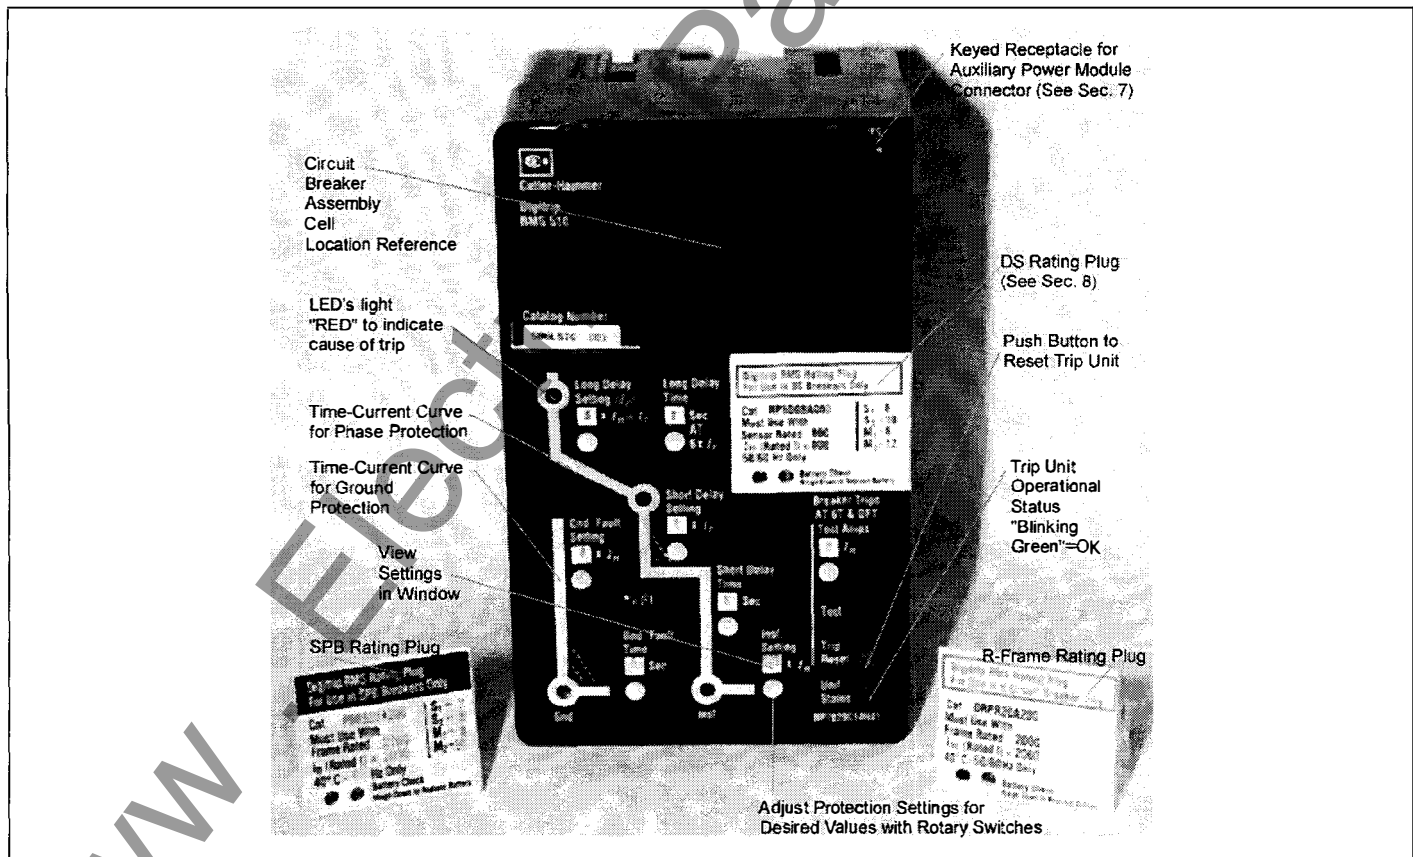
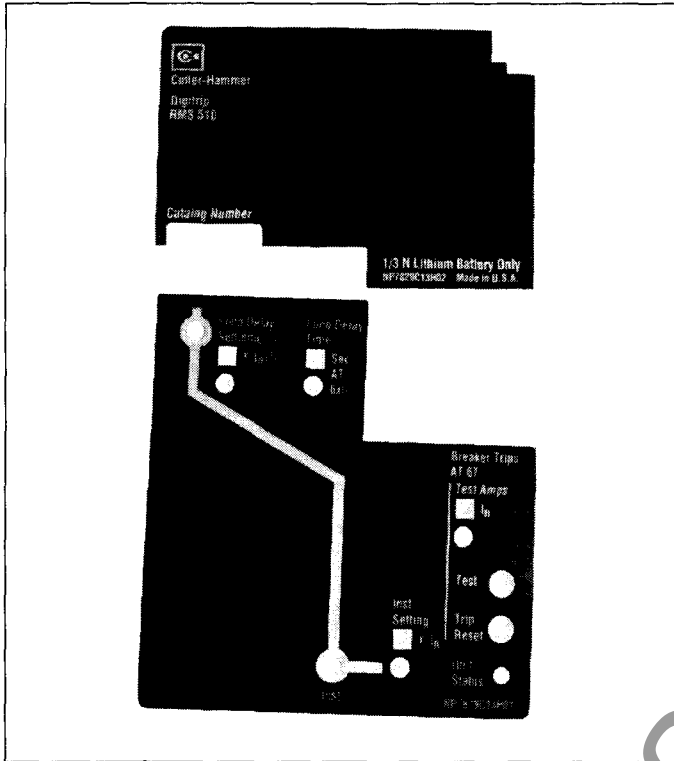
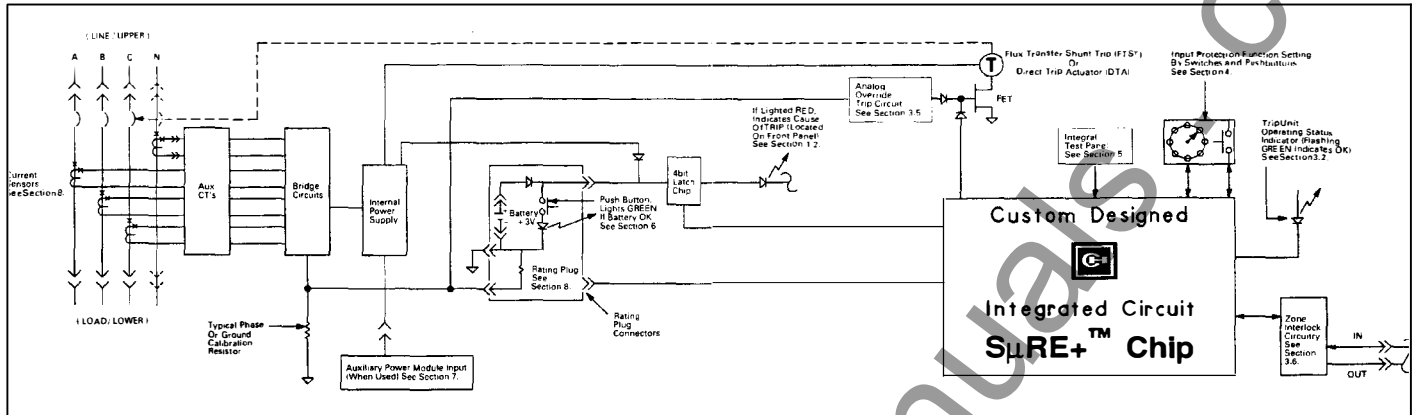
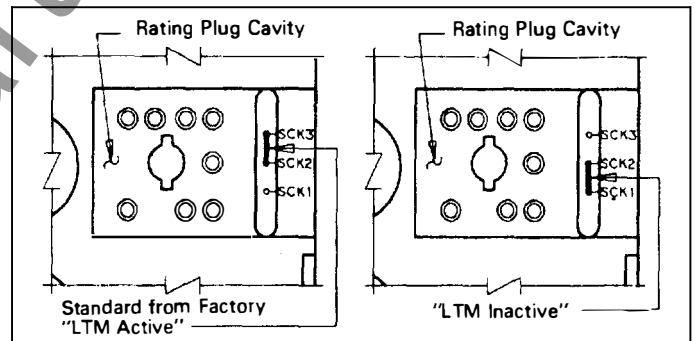

Fig. 1 Digitrip RMS 510 Trip Unit Model LSIG with Rating Plug
Fig. 2.1 Long Time/Instantaneous Protection (LI)
Fig. 3 Digitrip RMS 510 Block Diagram with Breaker Interface
Fig. 4.2.1 Long Time Memory "LTM" Jumper
The Digitrip RMS 510, illustrated in Fig. 1, is a custom application specific integrated circuit based trip unit suitable for use in types DS and DSL low voltage AC power circuit breakers and type SPB Systems Pow-R circuit breakers and Series C[®] R-Frame molded case circuit breakers.
The Digitrip RMS 510 Trip Unit is available in six different types. Each trip unit may be equipped with a maximum of five phase and two ground (time-current) adjustments to meet specific application requirements. The types of protection available for each model include the following, which are illustrated in Figures 2.1 through 2.6:
The Digitrip RMS 510 Trip unit provides three basic functions: Protection, Information and Testing. A typical trip unit and rating plug are illustrated in Fig. 1. Individual product instruction leaflets referenced in Section 9.0 illustrate typical Digitrip RMS Trip Units installed in specific breakers.
The trip unit employs the Cutler-Hammer Inc. custom designed integrated circuit μ RE + chip, which includes a microcomputer to perform its numeric and logic functions. The principle of operation is described by the block diagram shown in Fig. 3.
The LEDs, shown in Figs. 1 and 2.1-2.6, on the face of the trip unit, light "RED" to indicate the reason for any automatic trip operation. As indicated in Figs. 2.1-2.6, each LED is strategically located in the related segment of the time-current curve depicted on the face of the trip unit. The reason for trip is identified by the segment of the time-current curve where the LED is lighted "RED". Following an automatic trip operation, the back-up battery, continues to supply power to the LEDs as indicated in Figs. 3 and 6. To check the status of the battery, see Section 6.
Push the "Trip Reset" button shown in Fig. 1, to turn "Off" the LEDs following a trip operation.
A green colored LED, as shown in Fig. 1, indicates the operational status of the trip unit. Once the load current through the circuit breaker exceeds approximately 10% of the frame/current sensor rating, the green LED will flash "On" and "Off" once each second, to indicate the trip unit is energized and operating properly.
Zone Selective Interlocking (or Zone Interlocking) is available (see Fig. 3) for Digitrip RMS Trip Units having Short Delay and/or Ground Fault protection. Zone Selective Interlocking provides the fastest possible tripping for faults within the breaker's zone of protection, and yet also provides positive coordination among all breakers in the system (mains, ties, feeders and downstream breakers) to limit the outage to the affected part of the system only. When Zone Interlocking is enabled, a fault within the breaker's zone of protection will cause the RMS DIGITRIP trip unit to:
Prior to placing circuit breaker in operation, each trip unit protection setting must be set to the values specified by the engineer responsible for the installation. The number of settings that must be made is determined by the protector model supplied as illustrated in Figs. 2.1 through 2.6. Each setting is made with a rotary switch, using a small screwdriver. The selected setting for each adjustment appears in its respective rectangular viewing window as illustrated in Fig. 1.
In certain applications it may be desirable to disable the LTM function. The LTM function can be disabled by (first opening the breaker and then) removing the Rating Plug (See Figures 1 and 6), and lastly moving the LTM jumper (inside the rating plug cavity, See figure 4.2.1) to its "INACTIVE" connection. (You can enable the LTM function again any time you wish by moving the LTM jumper back to its original "ACTIVE" connection.)
- 2) There is a condition under which the Long Delay Trip LED can erroneously indicate a LDT has occurred, even though the breaker is still closed. This can happen when an overload current momentarily exceeds the Long Delay Current Setting, I_r so that the Long Delay LED flashes "RED" to indicate the overload condition. Then if, at the very moment when the LED is "ON", the load current would then suddenly drop to a value less than 10% of the breaker frame (or current sensor) rating, the trip unit stops functioning while the "4bit Latch Chip" (See Fig. 3) is set and the LED remains Lighted. If the current would again increase to a value above the Long Delay Current Setting, I_r , and then return to normal, the
LDT will reset itself. You can of course, manually clear the LDT (or any other trip indication) at any time, by pushing the “PUSH to RESET” button. (See Figure 1.)